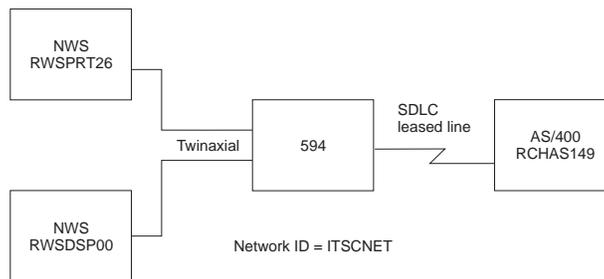

Fig. 1: SDLC Leased configuration
- Fig. 1: SDLC Leased configuration 2